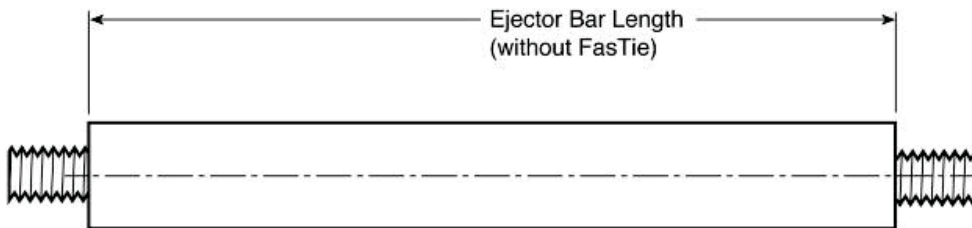

Figure 1
- Identify length of current solid ejector bar (Figure 1)